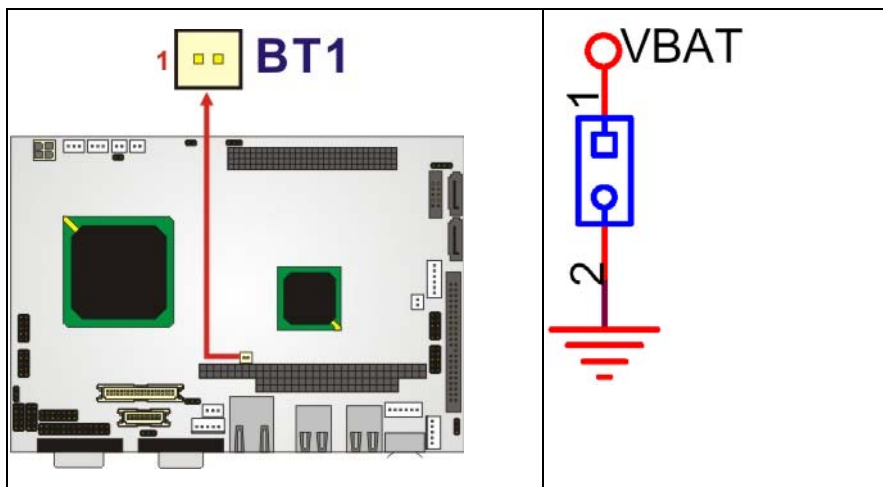

Figure 4-7: BT1 Connector Location
- CN Location:** See **Figure 4-7**